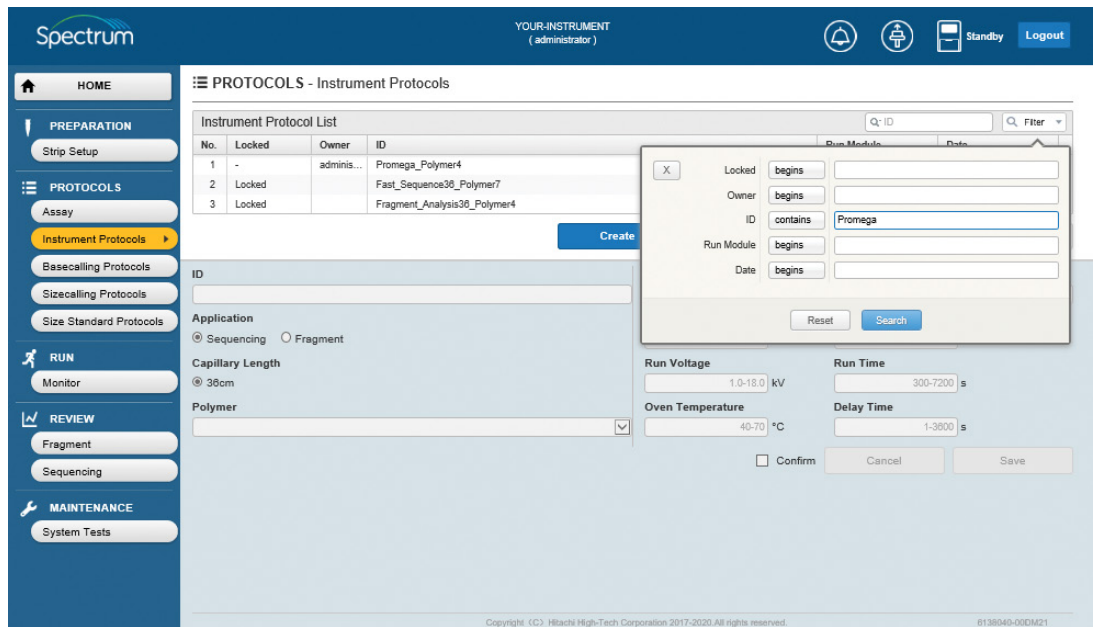

Figure 29. Instrument Protocol List search filter option selection.
5. After selecting the appropriate filter for search terms in the field being search (i.e., Locked, Owner, ID, Run Module or Date), type the desired search term in the adjacent box and select **Search** (Figure 29). Alternatively, select **Reset** to exit.